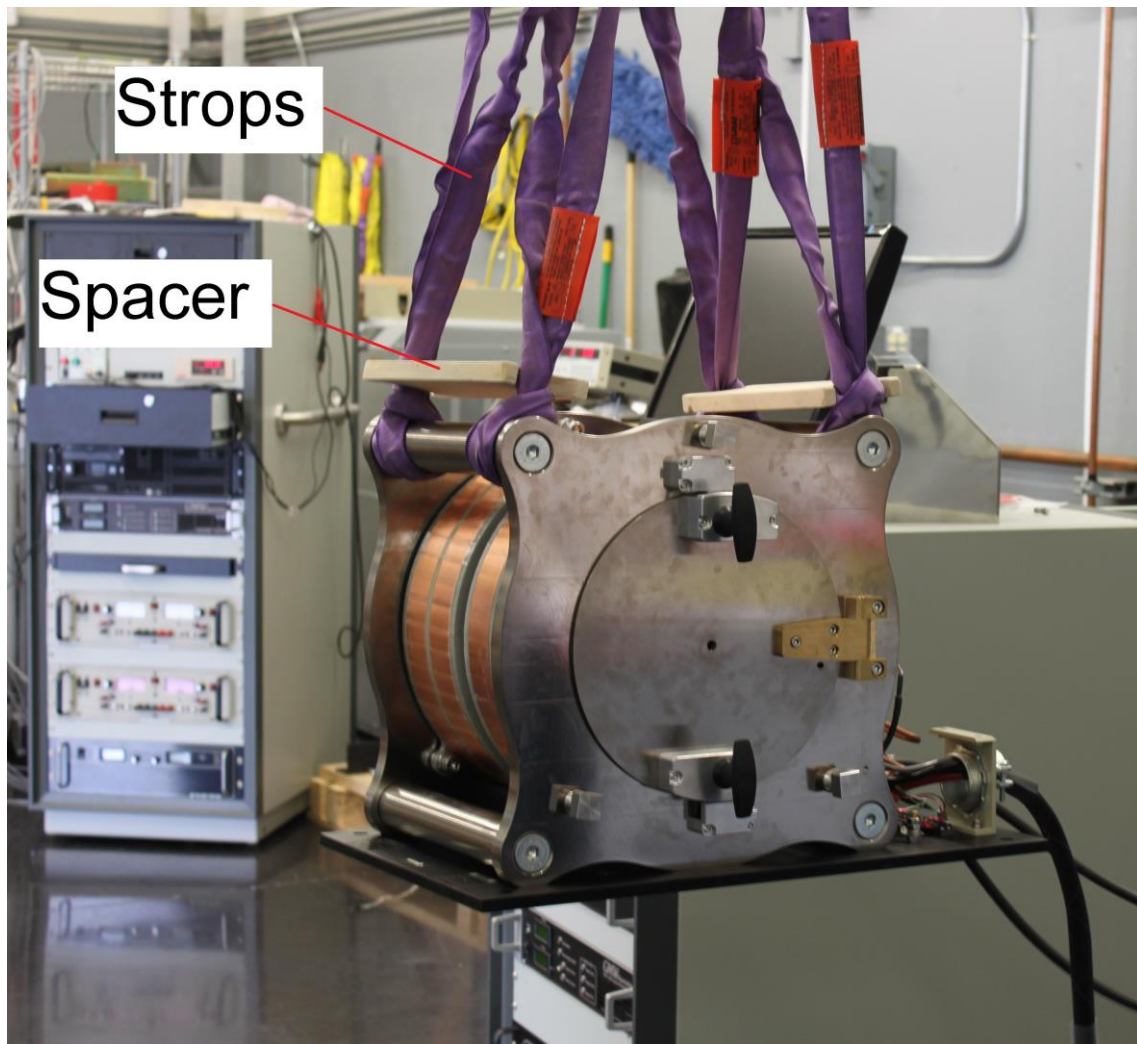

Figure 1: Illustration of the use of strops and spacers to lift the 5453 magnet.
5. With suitable lifting equipment (eg 200kg (440lb) minimum safe lifting rating) lift magnet clear of the shipping crate. Use straps (at least two) around the upper two yoke return arms ( $\varnothing 2"$  bars running length of the magnet) to lift the magnet. Make sure that the straps are prevented from sliding together by using the two wooden spacers provided (see figure 1).